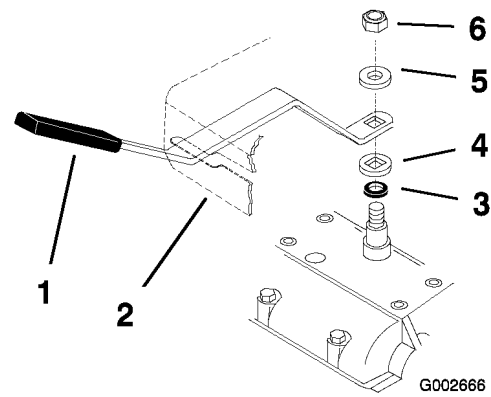

Figure 7
1. Shift lever to second gear and check alignment of lever in slot of shift lever plate. The clearance between top and bottom of the shift lever should be equal (Figure 7).
2. If clearance is not correct, remove lever and bend it slightly to adjust (Figure 7).
3. Shift lever to neutral and check alignment of lever in slot of shift lever plate. The clearance on the sides of shift lever should be equal (Figure 7).